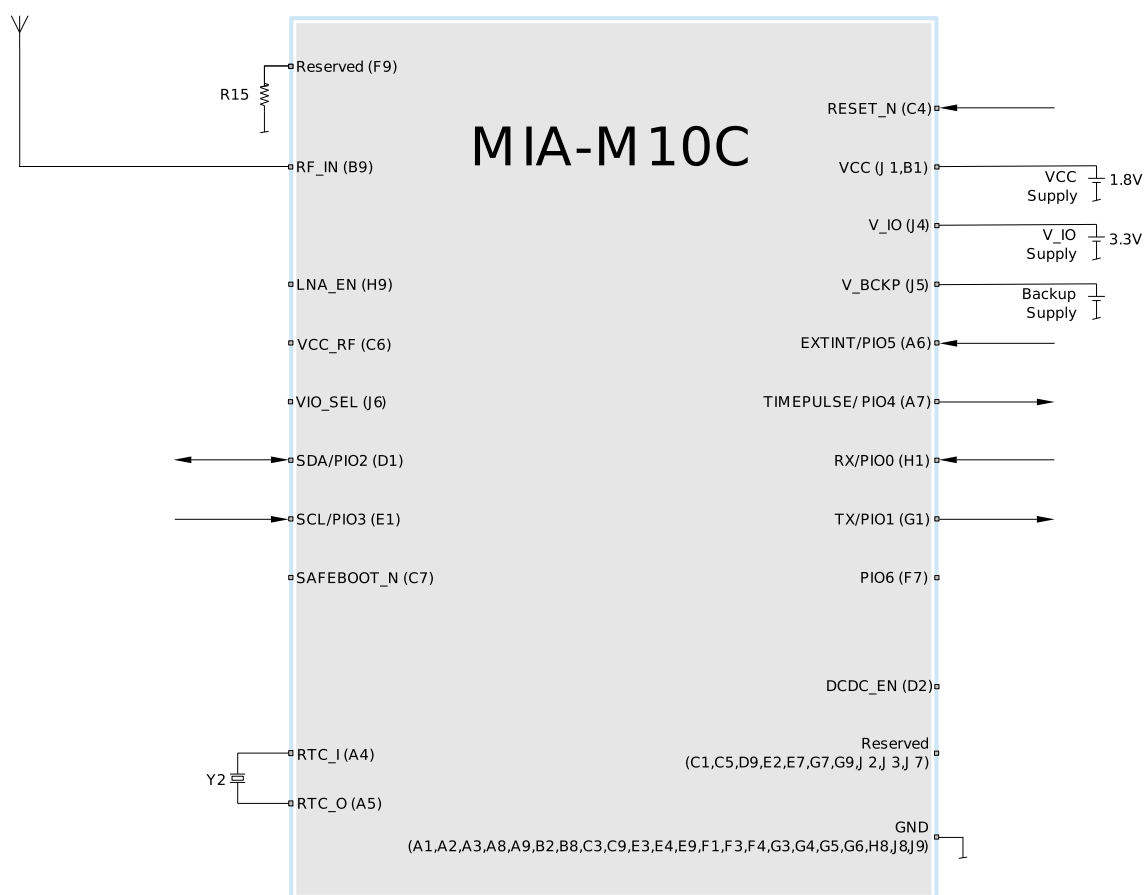
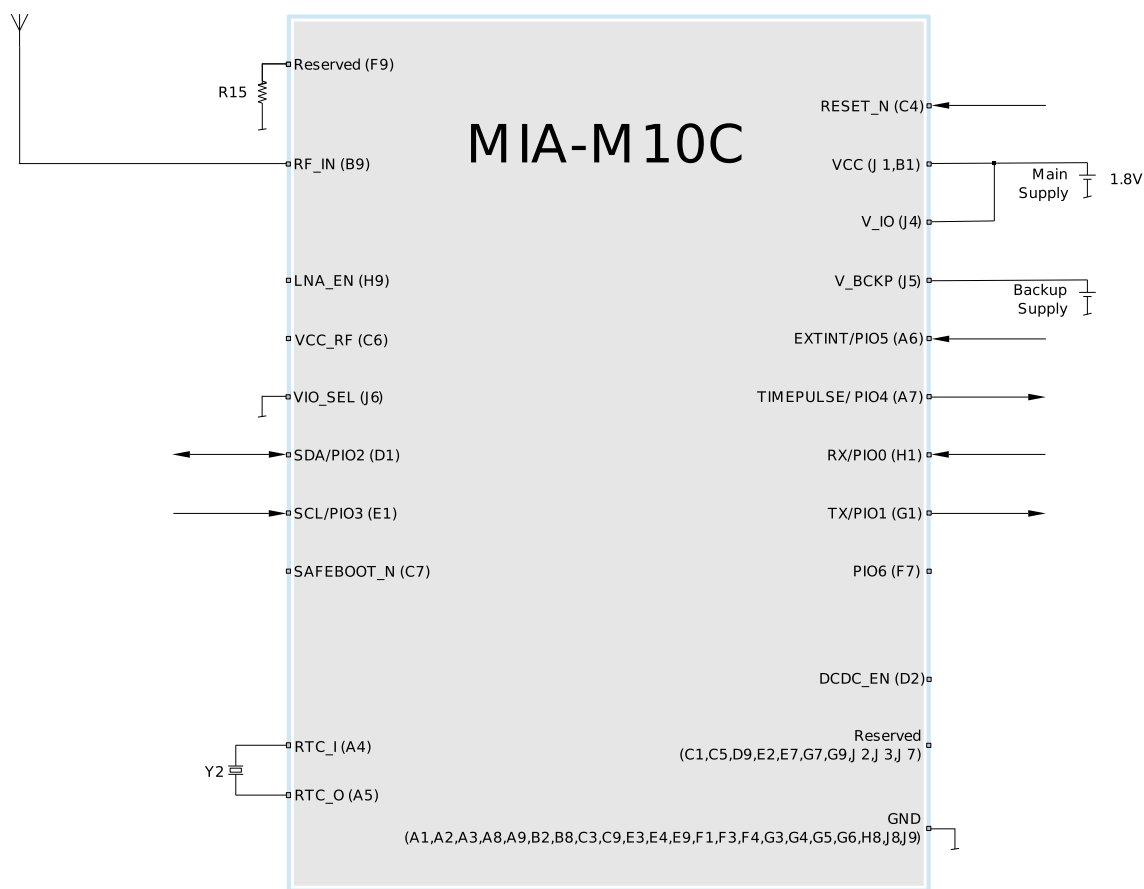

Figure 35: Typical 3.3 V design
Figure 36: Typical 1.8 V design
- The main supply (VCC) is 1.8 V. VCC and V_IO are connected together to a single supply in the case when 1.8 V V_IO supply is used. In designs with V_IO supply as 3.3 V, the VIO_SEL pin must be left open, as shown in Figure 35. In designs with V_IO supply as 1.8 V, the VIO_SEL pin must be connected to GND, as shown in Figure 36.